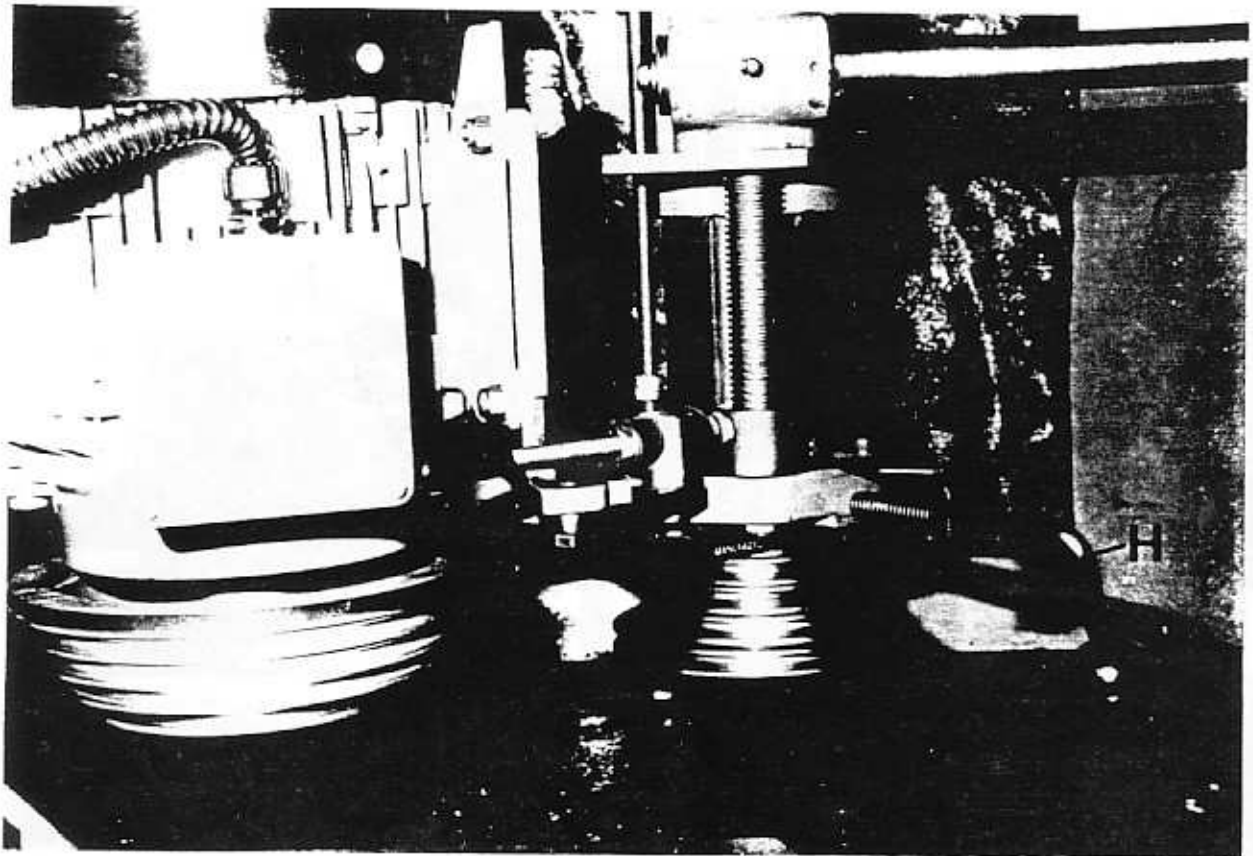
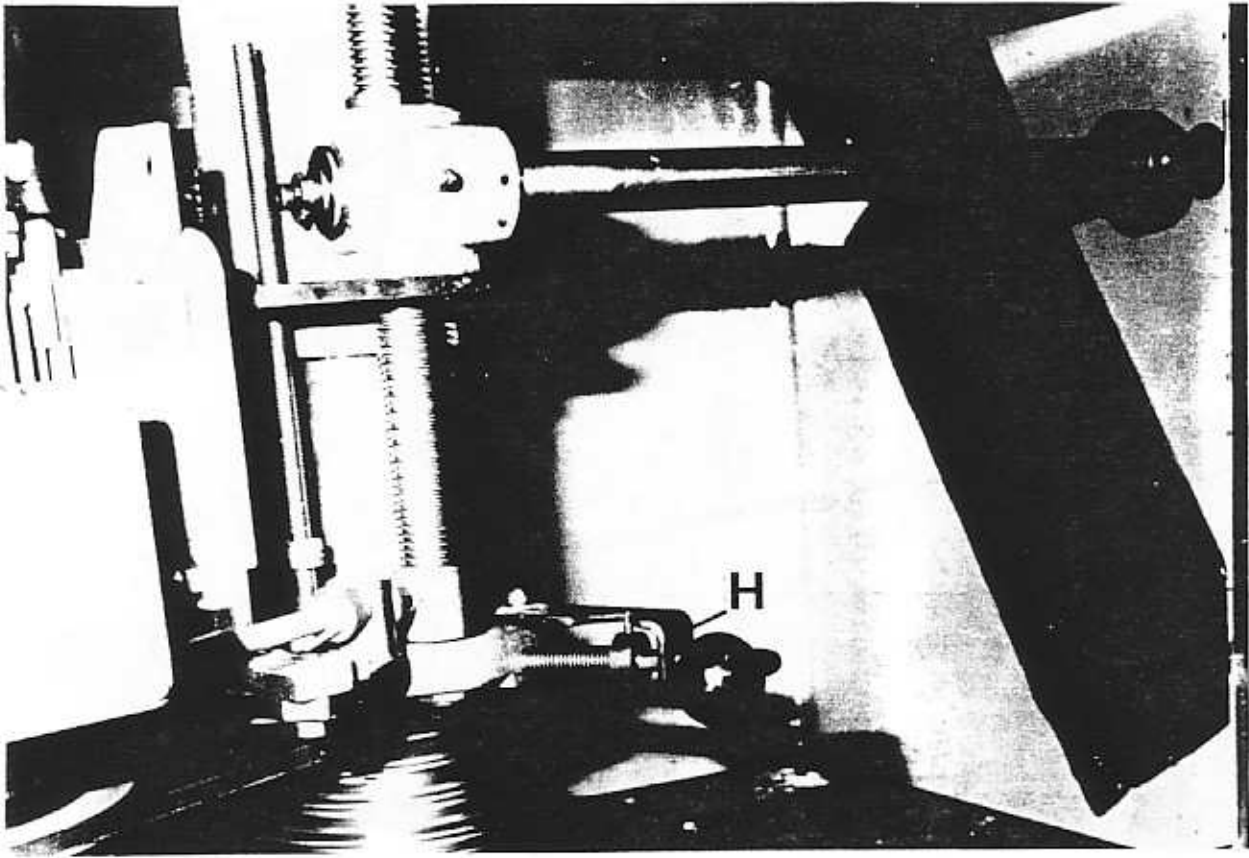

FIG. 7
FIG. 8
- d) Move spindle lock lever "H" FIG.7 towards spindle and rotate spindle by hand until spindle lock engages FIG.8.